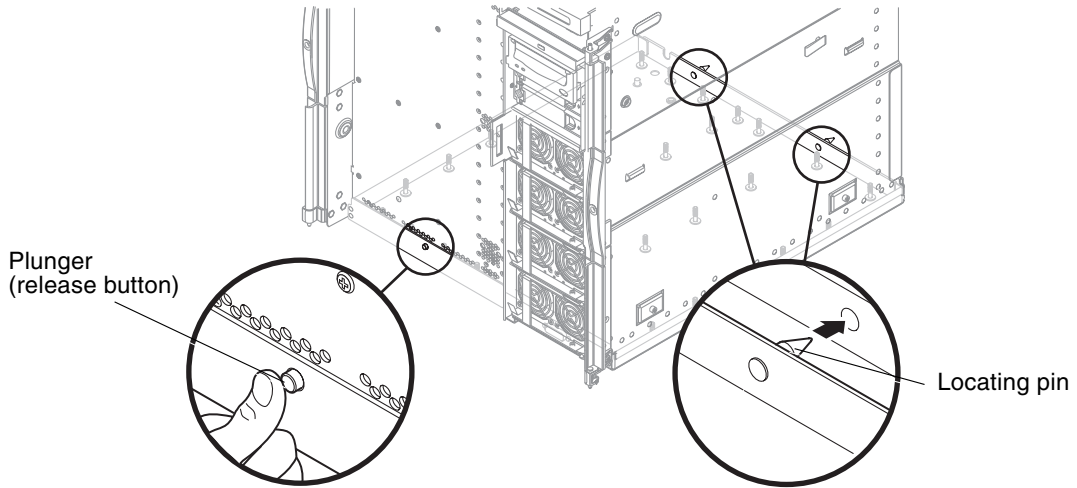

FIGURE 11-3 Releasing the Baseplane Plunger (If Fitted)
- If the system has a plunger (release button), with one hand, hold the baseplane up and press in the plunger (release button) at the front of the chassis (FIGURE 11-3).
18. Lower the front of the baseplane and pull it forward. (FIGURE 11-3).
3. Insert the locating pins into the slots at the rear of the chassis (FIGURE 11-3).